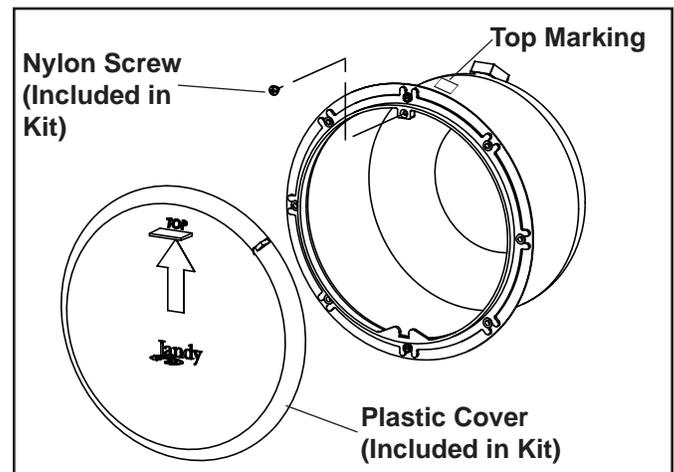

Figure 7. Plastic Niche Cover and Nylon Screw for Stainless Steel Niche
- g. Remove the nylon screw and attach plastic niche cover to opening of niche prior to the concrete/gunite pouring/shooting operation. See Figure 7. The cover prevents concrete or gunite from entering the inside of the niche, during the pouring/shooting operation.